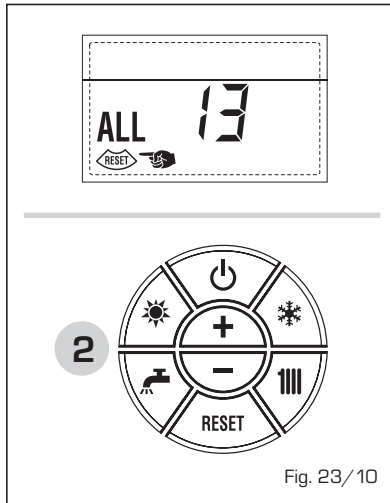

Fig. 23/10
- **"ALL 14" EXHAUST FUMES PROBE ERROR (fig. 23/11)**